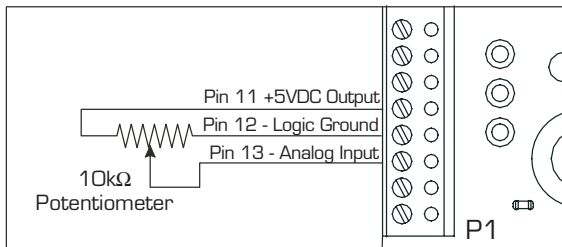

Figure 3.2: Interfacing the Speed Control Input with a Potentiometer
This 0 - 5 volt analog input will typically be interfaced using a 10k $\Omega$  potentiometer as illustrated in Figure 3.2, a joystick wiper or by a 0 to +5V (4-20mA/0-20mA) analog output. If a constant velocity is desired, the speed control input can be connected directly to the +5VDC output and the desired velocity set using the VM parameter. When the input is 1 count greater than DB (value of the potentiometer deadband parameter), the step clock frequency will begin at the value specified by the initial velocity (VI) parameter. When at 5 volts, it will be at the value specified by the maximum velocity (VM) parameter. See Setting the Initial/Maximum Velocity, for more details.